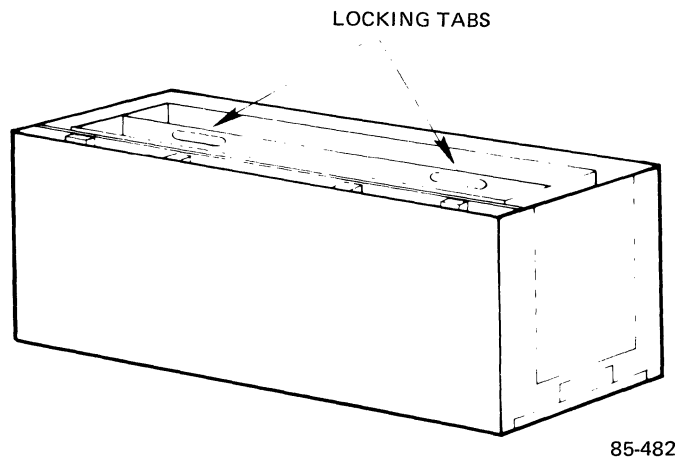

Figure 2-4. Locking Tabs
7. Open the top flaps of the cardboard wraparound by pulling the two locking tabs from the slots on the top edge of the wraparound (see Figure 2-4).